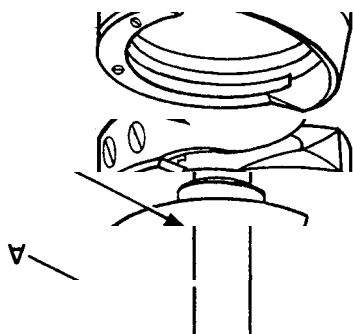

Figure 4-8.—Sewing hook kit.
(8) The hook guard prevents the sewing hook from striking the needle. Adjust the hook guard (figure 4-8 [A]) by bending it until it is at least as near the needle as the hook point, but does not push the needle.
(9) Install the feed dog, the throat plate, and the presser feet.